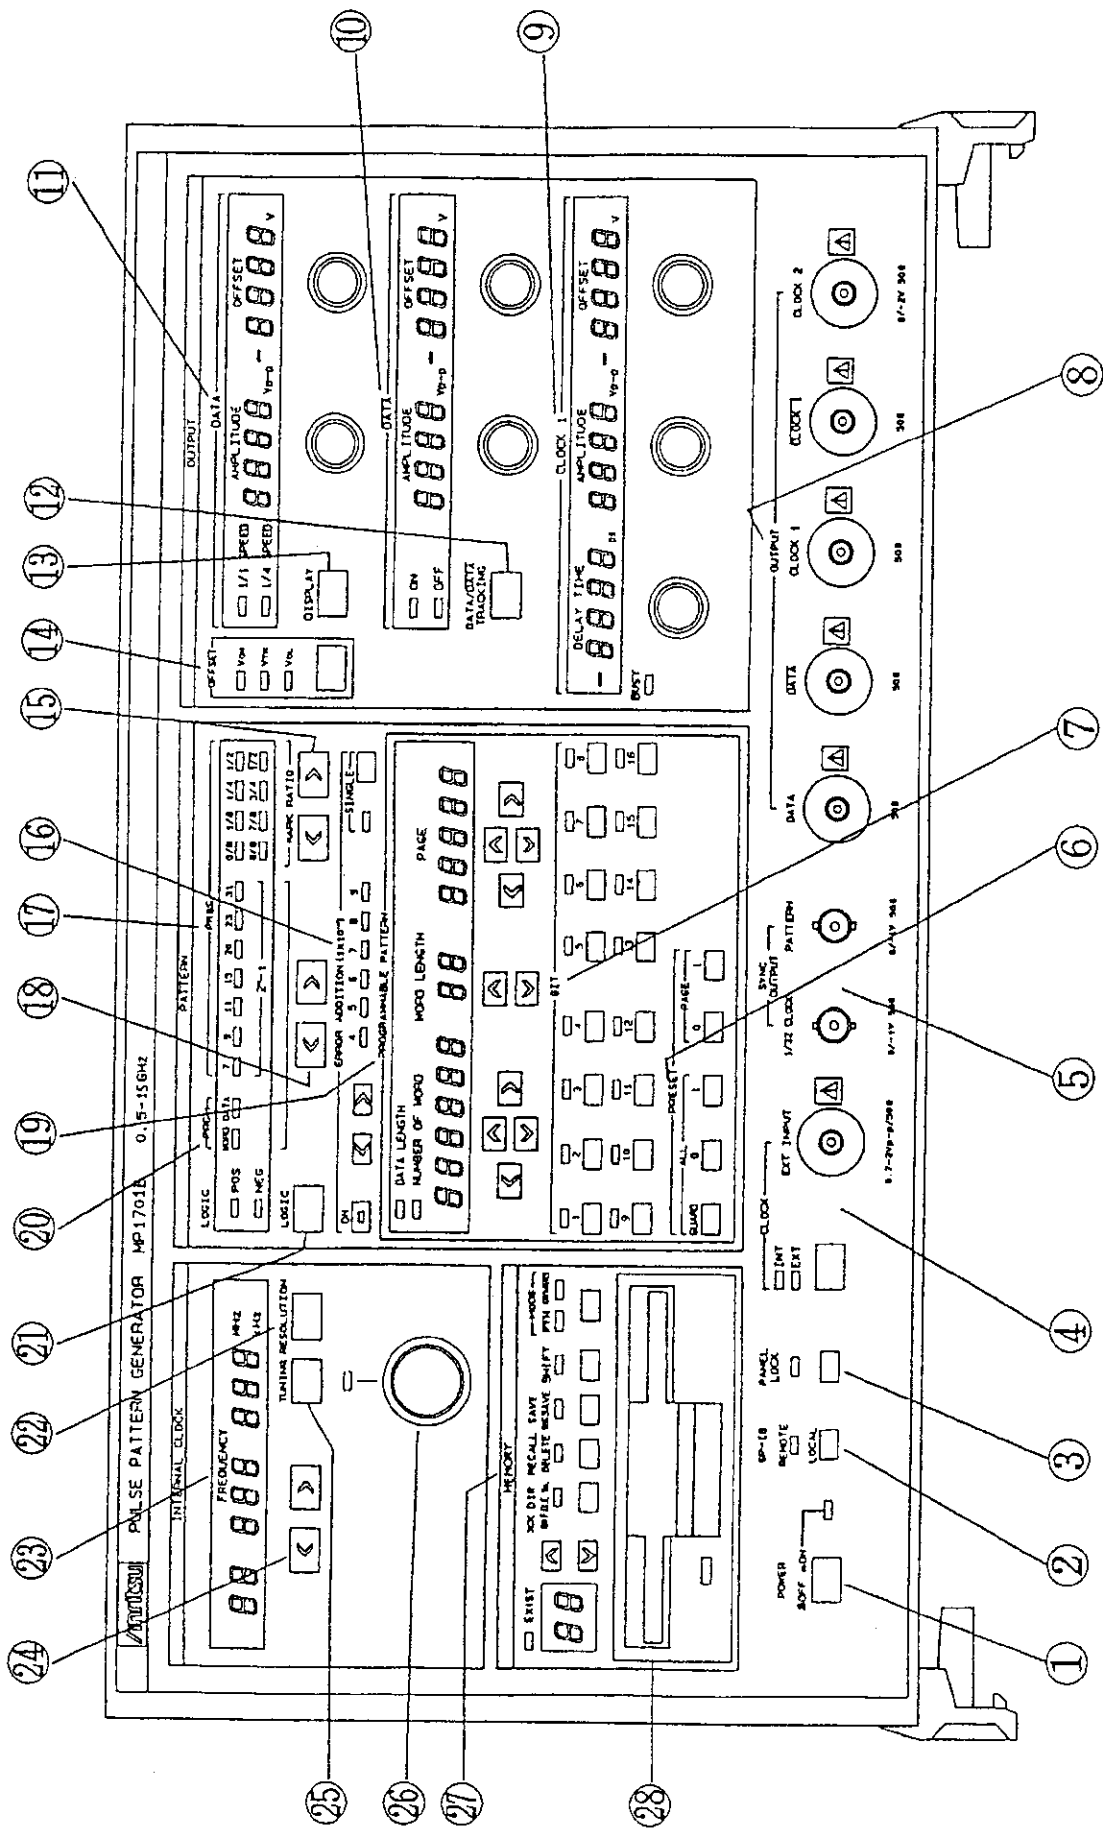

Fig. 3-1 Front panel
3.1 Panel Controls (Figs. 3-1, 3-2 and Table 3-1)
The number (5), (8), etc. in the text correspond to the controls of Figs. 3-1 and 3-2.